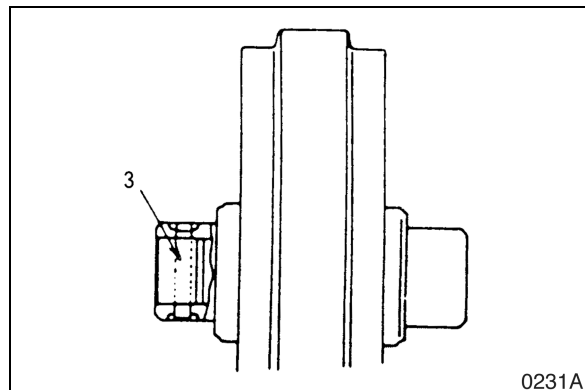

Figure 27
5. Install idler (7, Figure 27) on the axle.
6. Install bearing (1, Figure 27) and pin (3) to the axle.